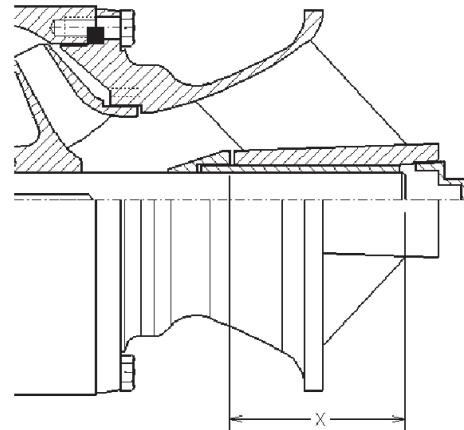

Figure 16
2. If the sand collar is not assembled to the shaft, install the sand collar. The sand collar is attached to the shaft with a shrink fit. The larger diameter of the counterbore of the sand collar goes toward the suction bell bearing. Heat the sand collar until it slips over the shaft and quickly position it so that the bottom of the sand collar is set according to the "X" dimension, before it cools. See Figure 16. See Table 1 for the "X" dimensions. Slide the plain end of the pump shaft into the suction bowl/bell bearing until the sand collar rests against the suction bowl/bell.